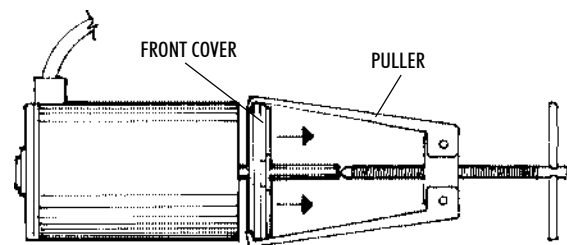

FIGURE 1—Using a bearing puller to remove the motor front cover and bearing.
3. Hook a wheel puller around the front cover and push against the shaft to remove the end cap and bearing from the shaft. NOTE: before removing the bearing, make sure the shaft is free from burrs so the bearing will come off easily. (See Figure 1.)